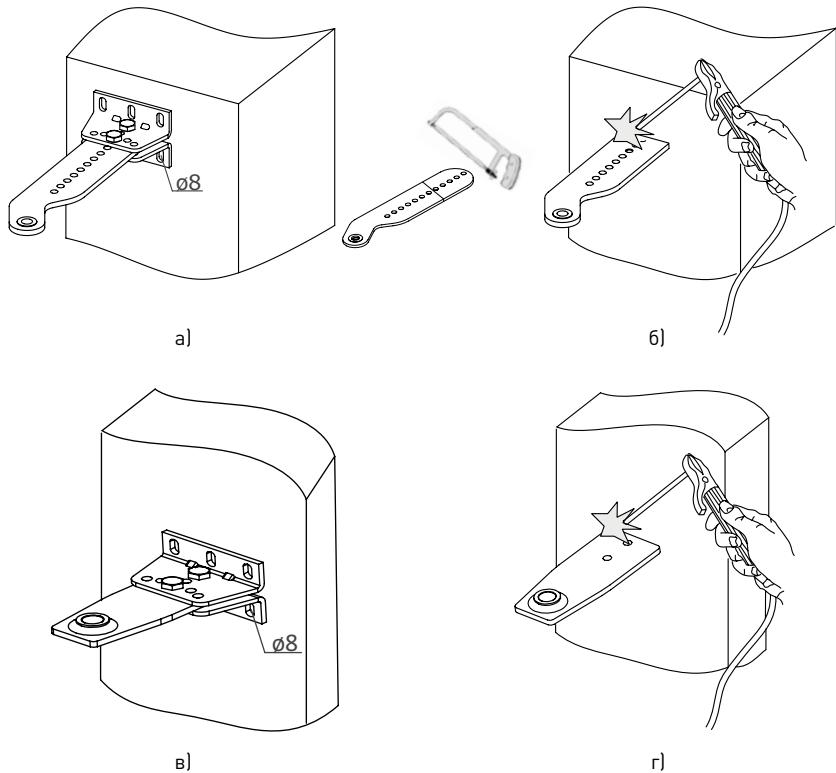
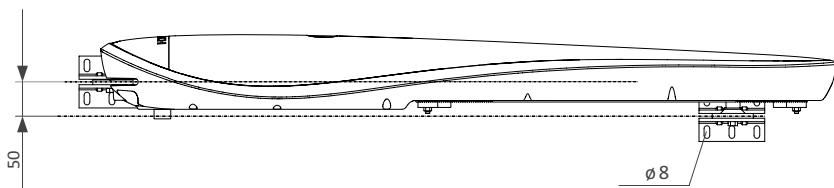

Figure 9. Mounting a rear or front fitting
Figure 11. Mounting a front fitting
- Fix the rear fitting on the post, either bolting it down or welding (*fig. 9*). Make sure the fitting is positioned horizontally. The fitting should be assembled and mounted rigidly.
- Ensuring compliance with the mounting dimension W, fix the front fitting on the leaf (*fig. 11*), either by bolting it down or welding (*fig. 9*). Use a spirit level to verify throughout the mounting process.